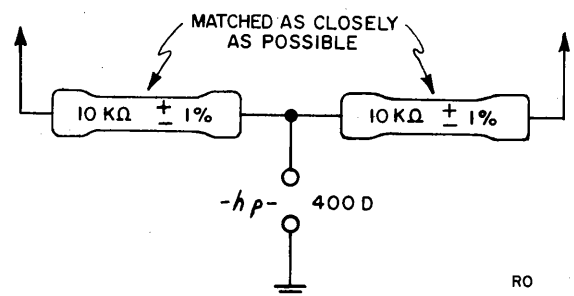

Figure 4-2. Oscillator Balance Probe
- 1) Oscillator Balance Probe, as indicated in fig. 4-2.